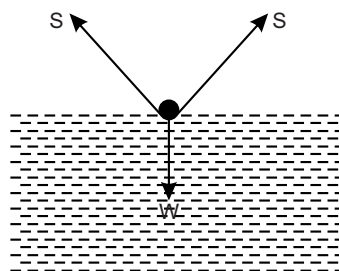

Fig. 6.19. Behaviour of free surface as stretched membrane
2. When a sewing needle is gently placed on the surface of water, it floats. The water surface below the needle gets slightly depressed. The force of surface tension does not act horizontally but along an inclined direction. (Fig. 6.19). The vertical component of the force of surface tension balances the weight of the needle.